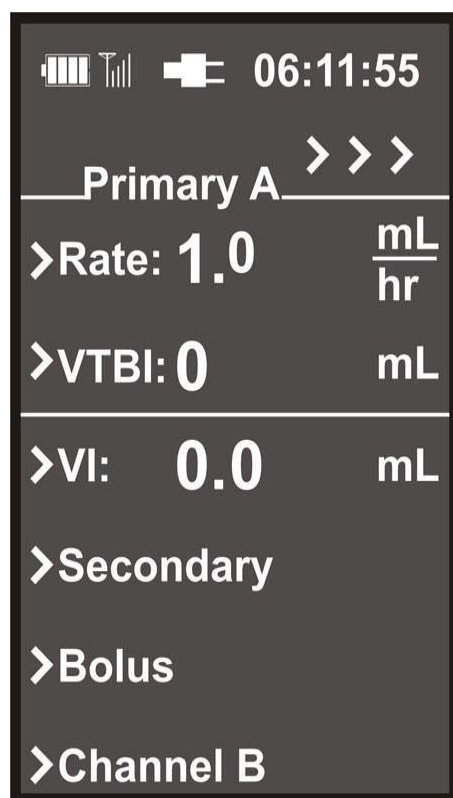

Figure 4-1. Primary Pump Setup Screen
If the Primary Pump Setup screen does not appear as shown in Figure 4-1, it may indicate improper functioning of the display. Although the Pump may appear to function properly, return it to qualified service personnel for examination and/or repair.
4.2 Primary Configuration. Pressing the  control key powers up the pump. Upon power up the pump first runs a Power On Self-Test then displays the message "Powering On" and enters the Primary Pump Setup screen (See Figure 4-1) where the Infusion Rate and Volume to be Infused (VTBI) is set.